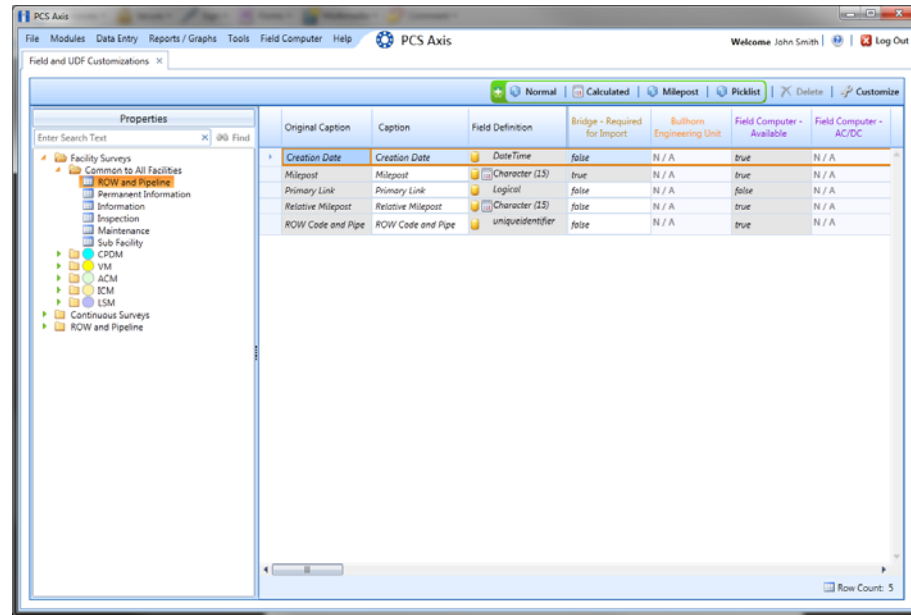

Figure 9-1. Field and UDF Customizations
- 1 Click **Tools > Field and UDF Customizations** to open the *Field and UDF Customizations* window (Figure 9-1, page 389).